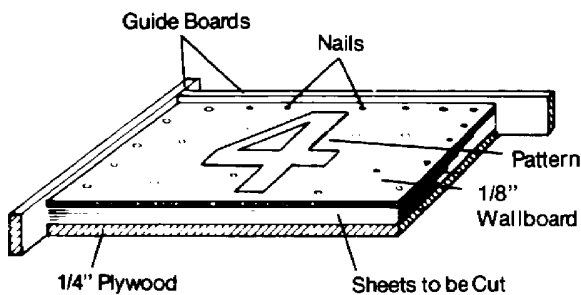

Figure 2. Stack Sheets and Set Guide Boards
2. Stack the film on the assembly device, placing the sheets tightly against guide boards set along the sides. See Figure 2.